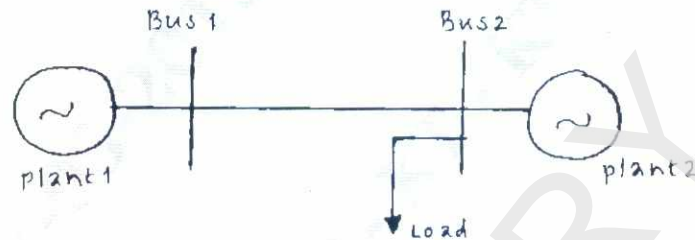

Fig.Q6(a)
- 6 a. A two bus system shown in Fig.Q6(a). If 100MW of power is imported to bus 2, a loss of 8 MW is incurred, find the required generation for each plant and the power received by the load when plant incremental cost is Rs.100/MWh. The incremental fuel cost of two plants are :
- b. Compute the loss coefficients for the network shown in Fig.Q6(b) using below data.